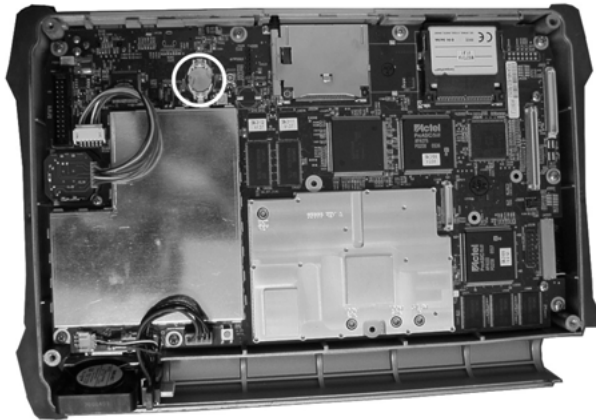

Figure 3-8. Real Time Clock (RTC) Battery
1. Refer to Figure 3-8 for the location of the RTC battery (circled). Refer to the parts list in Table 1-3, “List of Replaceable Parts” on page 1-4 for the replacement part number.